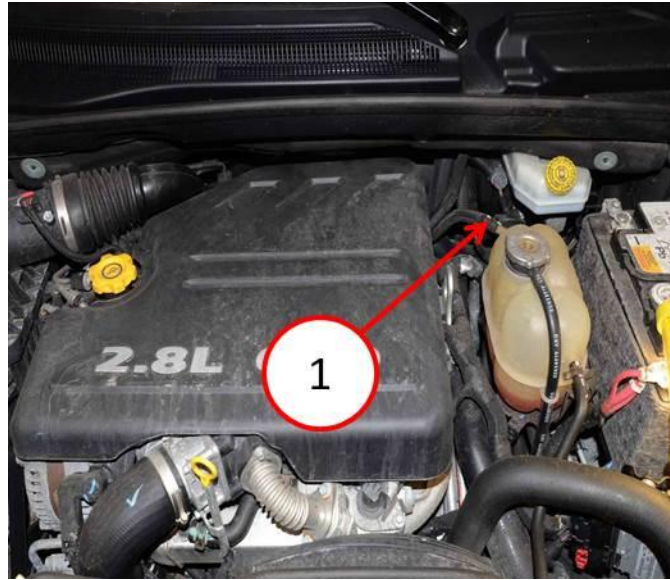

Fig. 1 Differential Pressure Sensor Location - Engine Compartment Location
2. Disconnect the Coolant Bottle and reposition it to reach the Differential Pressure Sensor (DPS) (Fig. 1).